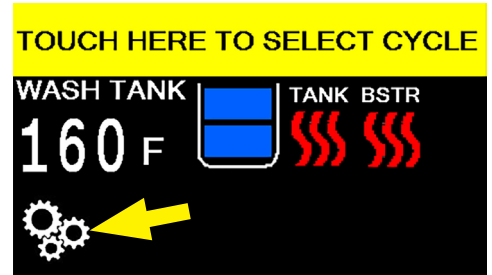

Fig. 42 - Main screen
1. Press the SETTINGS button, "gears", (Fig. 42).
9. During normal operation, if the machine is idle for the programmed time, then the main screen displays, "SLEEP" "TOUCH TO WAKE UP". Touch the screen and the operation screen will reappear, (Fig. 42).